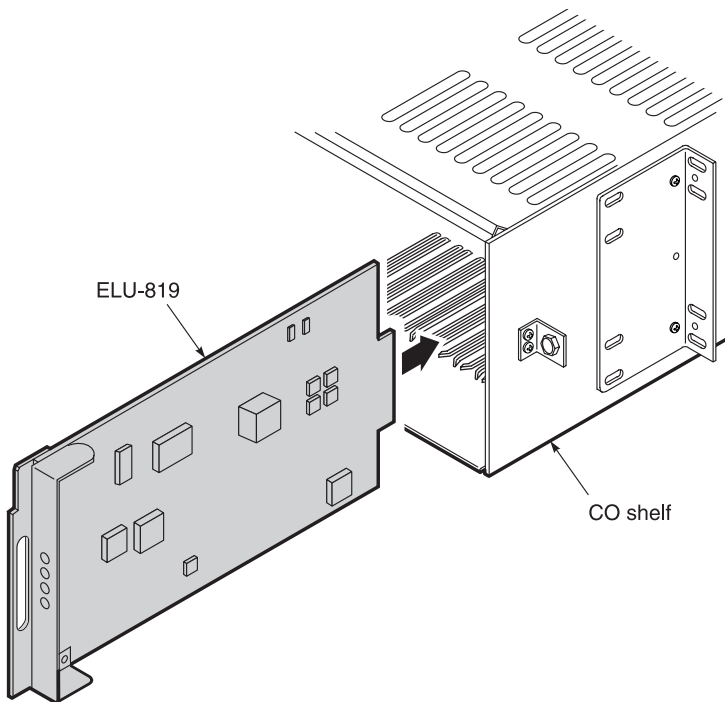

Figure 4. *Installing the ELU-819 into a 3192 Shelf*
- 1 Align the ELU-819 with the enclosure slot guides and slide the unit in. (Figure 4).